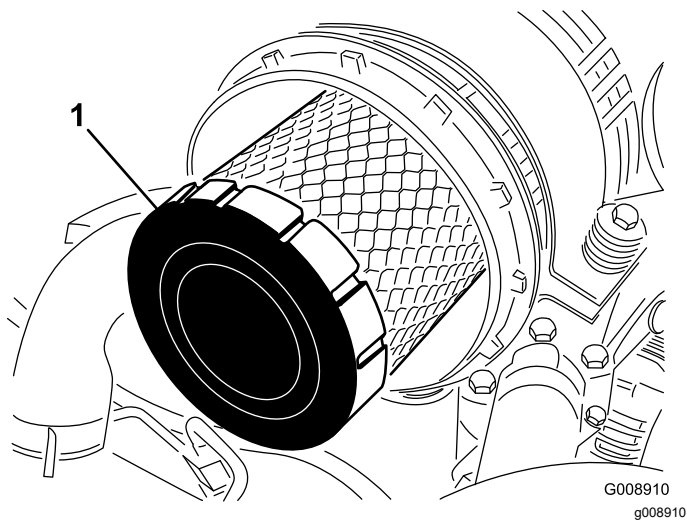

Figure 52
4. Remove and replace the primary filter (Figure 52).